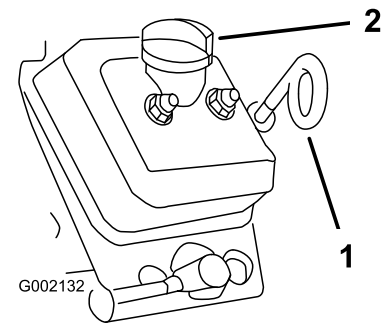

Figure 35
5. Use a rag to clean around the oil dipstick and fill cap (Figure 35) so that dirt cannot fall into the dipstick tube or oil-filler neck and damage the engine.
6. Remove the dipstick and wipe it clean (Figure 35).
7. Slide the dipstick into the dipstick tube and ensure that fully seats (Figure 35).
10. Install the filler cap (Figure 35).
11. Install the oil dipstick and firmly seat it (Figure 35).